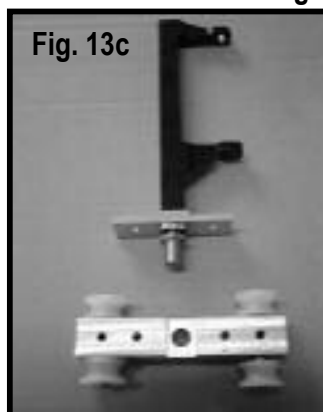

Fig. 13c
- III The fork can now be lifted up away from the carriage as shown in Fig. 13c.